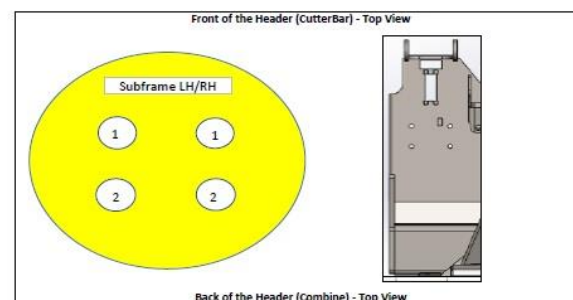

Figure 213
7. On Model Year 2020 and below the airbags on the subframe could only be adjusted in two locations. Factory setting is number 1 position. Figure 213